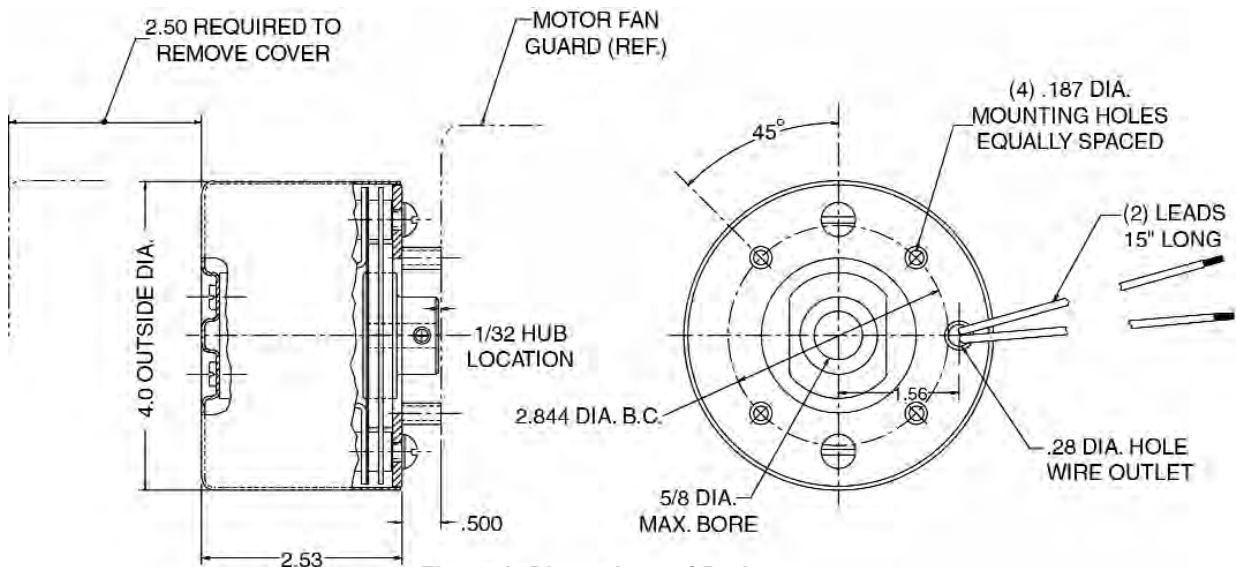

Figure 2. Dimensions of Brake
INSTALLATION (See Figures 2, 3, 4 & 5)
1. Position hub (8) on motor shaft 1/32" from mounting surface of motor fan guard and securely tighten both set screws. Bore in hub (See Figure 2) is designed to give minimum clearance between hub and motor shaft. If hub is tight on shaft, use emery cloth on motor shaft, so that hub slides on freely. Loctite or similar adhesive may be used on motor shaft extension.
2. Remove cover screws (17), lockwashers (18) and cover (16).
3. Place brake on motor, guiding rotating discs (9) on hub. Mount brake so that grommet (7) is on the wire connection box side of motor. Depress operator assembly lever (19) and align discs if needed. Attach brake securely to motor mounting surface using machine screws (5), lock washer (4) and spacers (2). Use of needlenose pliers to guide and hold spacer may be helpful. Brake bracket (3) is to be concentric with motor shaft within .010 T.I.R. and square within .010.
6. Bring solenoid lead wires thru grommet (7) to make the electrical connection. Replace cover and cover screws.